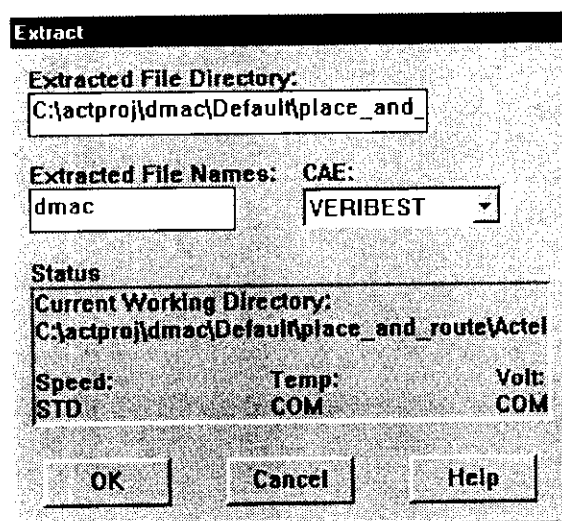

Figure 15. The Extract Window
1. From the Designer's flow chart, click Extract .	The Extract window will open as shown in Figure 15. The Status area of this window displays the operating conditions for which the delays will be extracted. To extract a different set of conditions, change the conditions first with the Options > Device Setup Wizard menu.